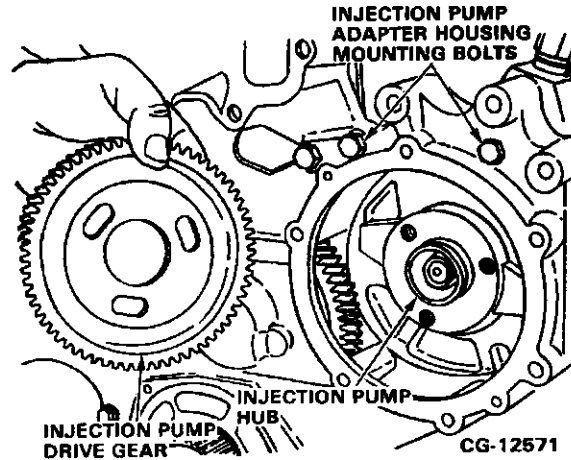

Figure 11.69. Remove the Injection Pump Drive Gear
13. Remove the injection pump drive gear from the pump hub. Refer to Figure 11.69.
14. Remove the two adapter housing bolts which go through the front cover. Refer to Figure 11.69.
2. Tighten the adapter housing bolts (depicted in **Figures 11.69 and 11.70**) to the specified special torque (see "SPECIFICATIONS").